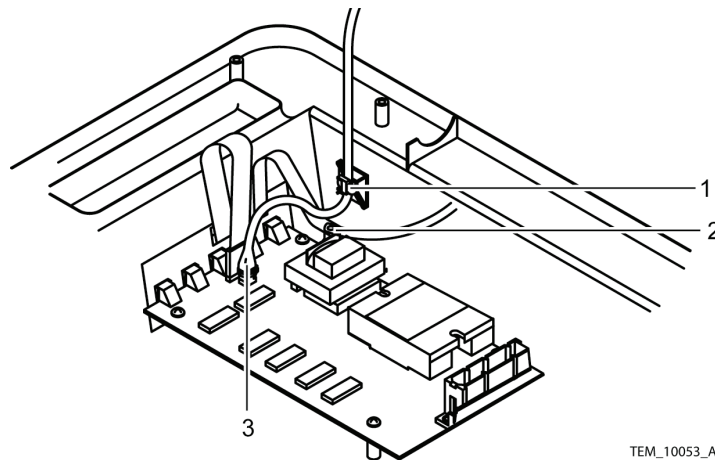

Figure 68. Cable Disconnect
16. Cut the cable tie securing the thermistor cable to the front cover assembly (Figure 68, item 1).
17. Remove the ground screw. See Figure 68, item 2.
18. Disconnect the thermistor cable connector. See Figure 68, item 3.